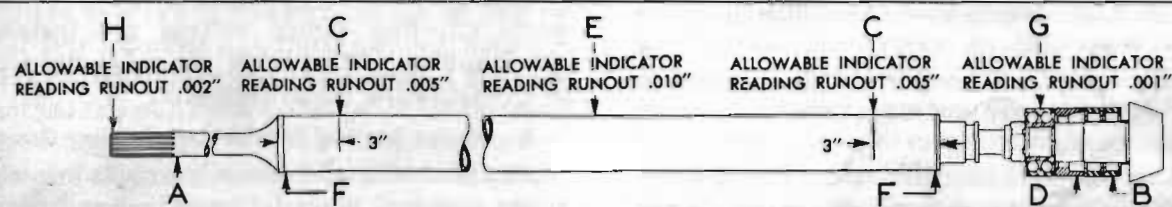

Figure 5-19—Propeller Shaft Run-Out Specifications
1. Support the assembly on V-blocks placed under the machined section just to rear of splines at "A" and under the rear (roller) bearing at "B." See figure 5-19.